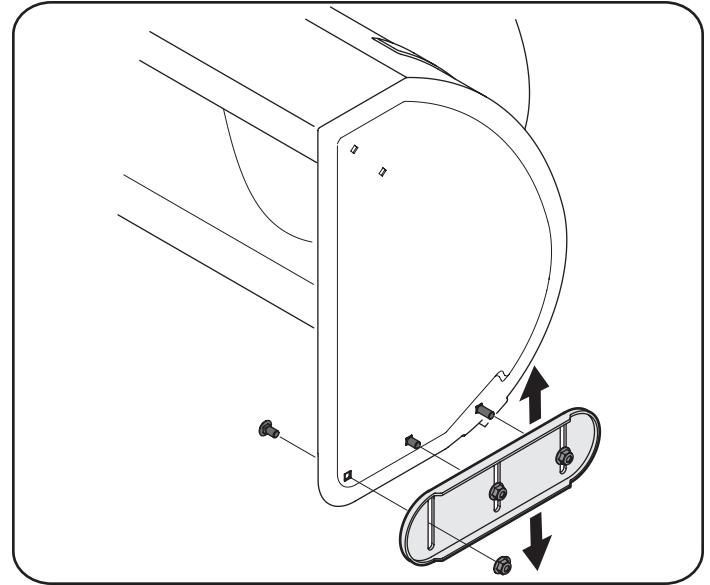

Figure 8
1. Loosen the six hex nuts (three on each side) and carriage bolts. Move skid shoes to desired position. See Fig. 8.